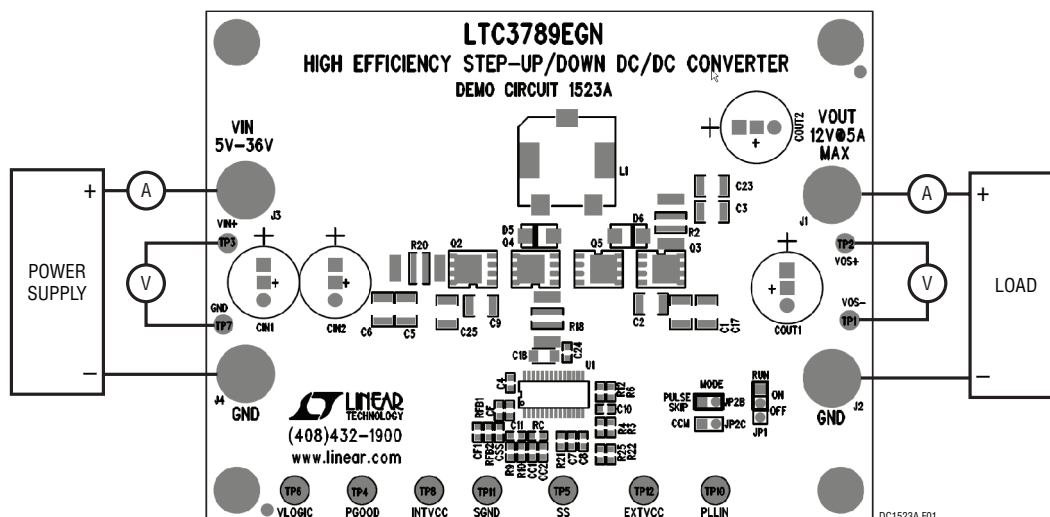

Figure 1. Proper Measurement Equipment Setup
1. With power off, connect the input supply, load and meters as shown in Figure 1. Preset the load to 0A and VIN supply to 0V.